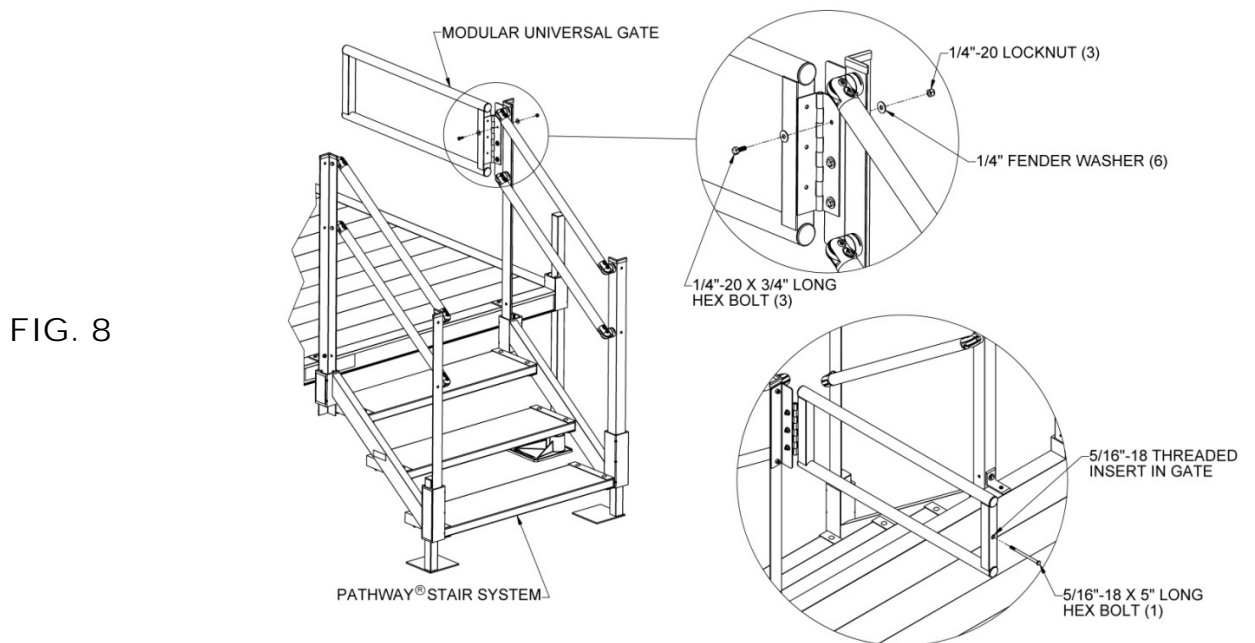

FIG. 8
- 3.5. Attach the gate to the Pathway Stair to Gate Mounting Adapter using the three 1/4"-20 x 3/4" long hex bolt, 1/4"-20 locknuts and 1/4" fender washers. Orient the hex bolts with the head on the hinge side of the adapter and fender washers under the bolt heads and the locknuts as shown (FIG. 8).
- 3.6. Install the 5/16"-18 x 5" long hex bolt into the 5/16"-18 threaded insert located opposite the hinge. Tighten bolt until further tightening becomes difficult but do not over tighten to the point where the insert starts spinning (FIG. 8).